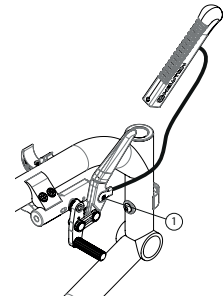

Fig. 39
- Loosen screw (1) (Fig. 39).
- Align eyelet (2) with the mounting hole.
- Re-tighten screw (1) on the lock lever.